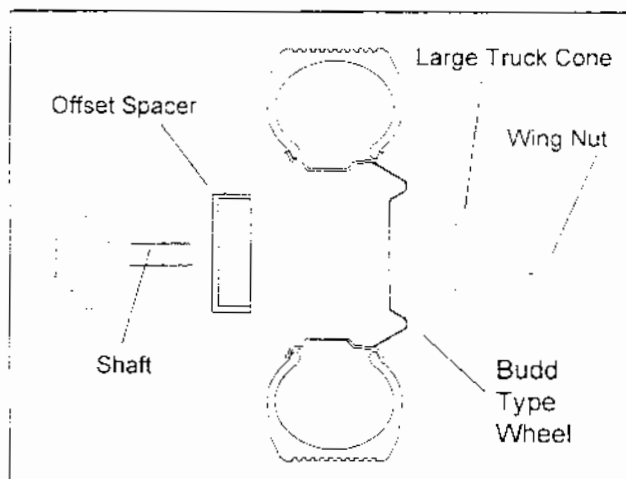

Figure 8 -- Mounting offset wheels
3. Select proper cone and mount onto shaft and into wheel center hole as shown in *Figure 8*.
The Offset Spacer was designed to provide clearance for the pin on these wheels, with a tapered inner lip to allow the clearance needed for the outside mounted cone to fit inside of it without binding. Mount these wheels as in *Figure 8*.